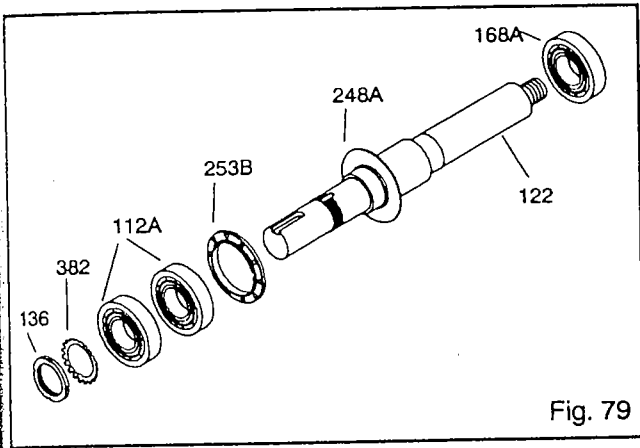

Fig. 79
3. Install oil flinger (248A) on shaft (122) if removed (Fig. 79).